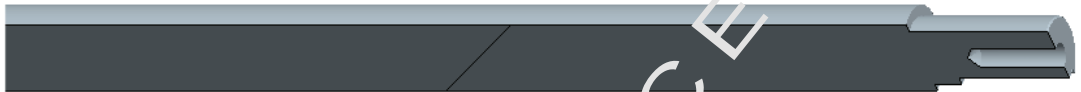

Figure 1–109
7. Select **Display > Visibility** in the View Manager to see the cross-hatching for the section. The model is displayed as shown in Figure 1–109.